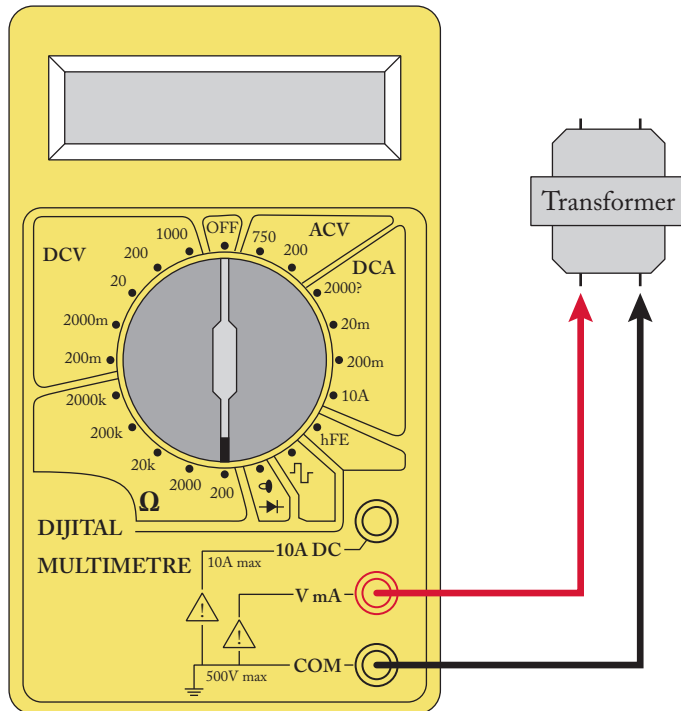

Figure 1.41: Testing a transformer with the resistance measurement section of DMM.
**Note:** You can test the transformers and incandescent lamps with the resistance measurement section of DMMs as well (Fig. 1.41). When the transformer winding is opened, or the lamp is blown, you read infinity.